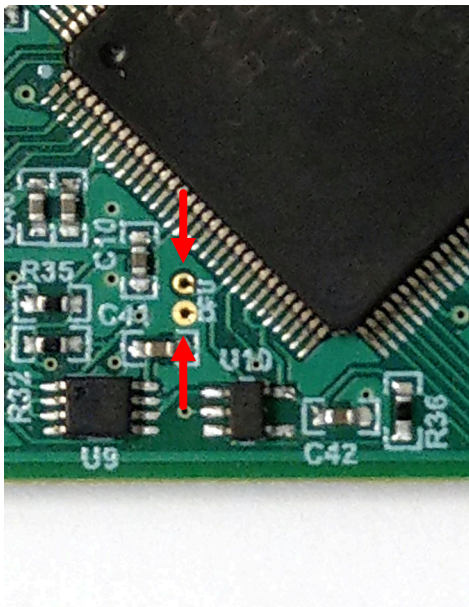

Figure 3-1. Test Points Used to Enter DFU Mode Manually
- Short the two test points near PK1 and PK2 of the header pins (see Figure 3-1) with a pair of tweezers (or wire) while pressing the RESET button.